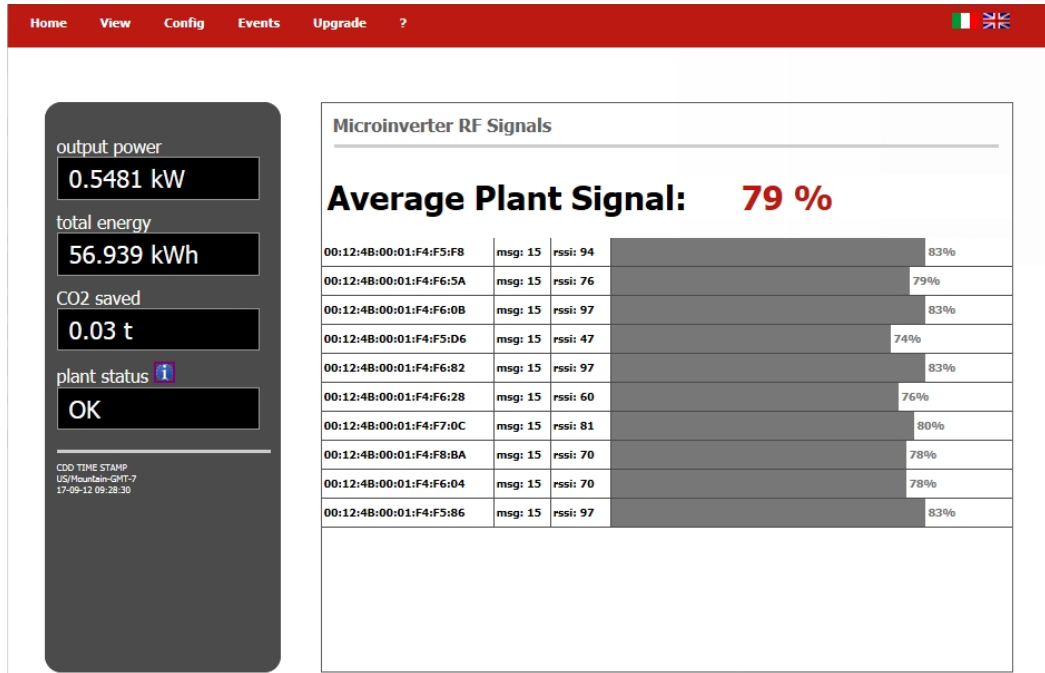

Figure 3-3 Signal bar graph screen from View RF Signals page from the CDD web server
4. On the “View - RF Signals” screen, the signal strength from each inverter will be displayed (Figure 3-3). Although information will be displayed on the screen immediately, it takes about 15 minutes for the screen to acquire new data and refresh.
There will be a signal strength bar for each AURORA MICRO inverter in the system. The example in Figure 3-3 shows data for 12 inverters. The following items will be of interest:
3. Check the “msg” and “average plant signal” numbers on the “Microinverter RF signals” screen (Figure 3-3), looking for msg = 15 and for an improvement in the “average plant signal.”
7. Check the Average Plant Signal again (Section 3, starting page 3), waiting 15 minutes for the screen to refresh (Figure 3-3).